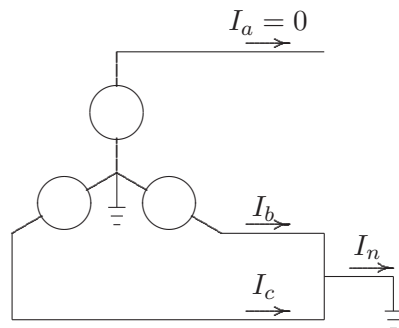

FIGURE 80
10.5. In the three-phase system shown in Figure 80, phase a is on no load and phases b and c are short-circuited to ground.